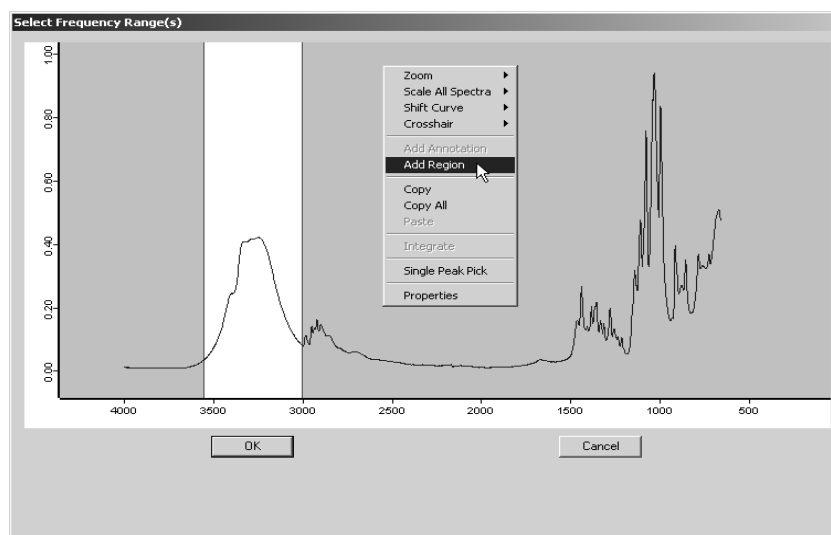

Figure 54: Interactive selection of the frequency region
- select one or more frequency regions interactively. (See fig. 54.)
We recommend the interactive selection of the frequency region. Select those regions in which are the most relevant spectral information of the substance to be analyzed. To define further regions, click with the right mouse button on the *Select Frequency Region(s)* dialog and select the option *Add Regions* in the popup menu (see figure 54). Then, put the cursor on a boundary line of the newly added frequency region and move it with pressed left mouse button to the desired position. After having defined all relevant frequency regions, click on the OK button.